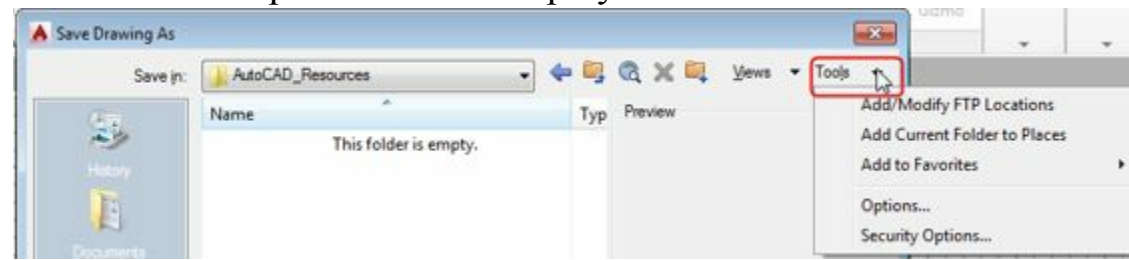

Figure-31. Tools drop down
- In the **Save Drawing As** dialog box, click on the down arrow next to **Tools** button; refer to Figure-31. A list of options will be displayed.